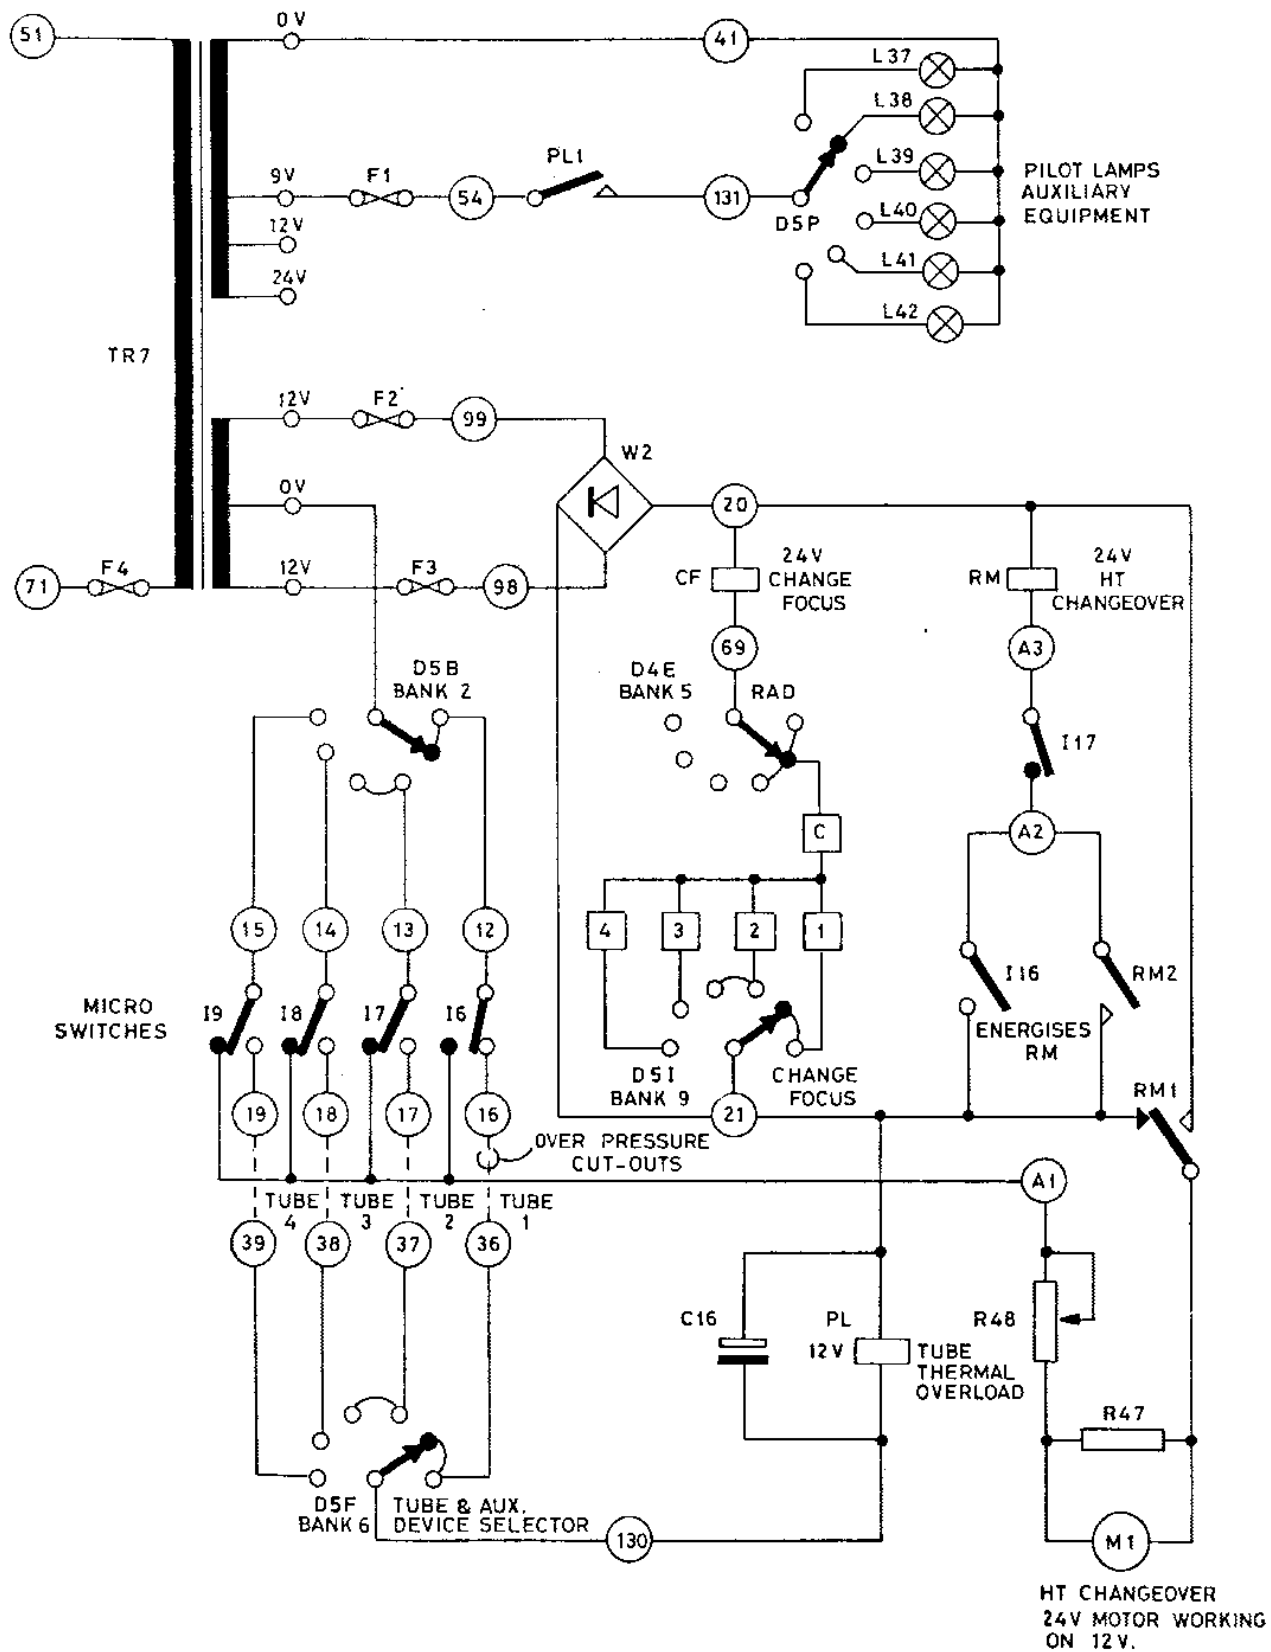

Fig 36 HT CHANGEOVER CIRCUIT
9.4 H.T. CHANGEOVER CIRCUIT Refer to Figs 36 and 37, pages 75 and 78
- A Select Tube 1 with switch D5 as shown in Fig 36. The motor M1 will be stationary, and the 24V a.c. output from the secondary of transformer TR7 is applied via fuses F2, F3 to the rectifier W2. After rectification the positive d.c. is routed via line 21, relay PL, line 130, switch D5F, line 36, over pressure cut-out, microswitch I6, line 12, switch D5B to centre tap (zero) on TR7, thus completing the circuit for tube 1 thermal interlock.